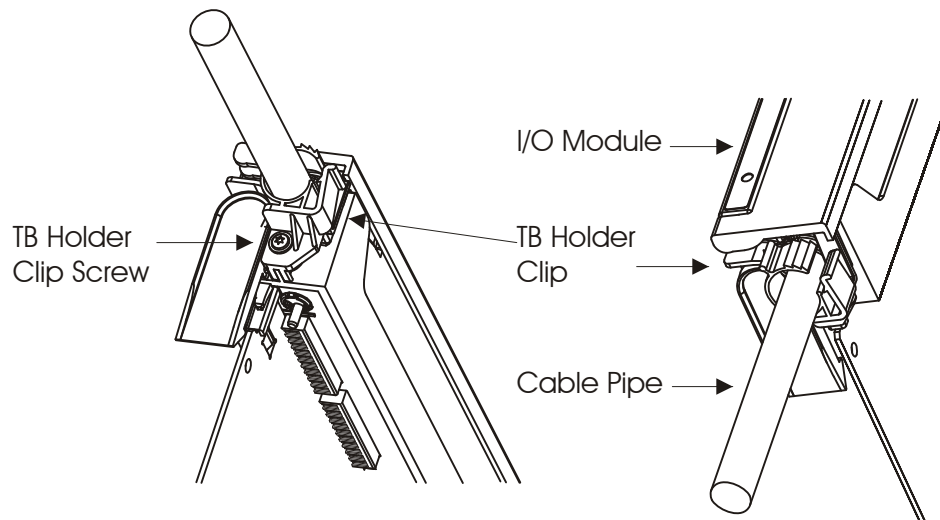

Figure 5-7 I/O Module with Terminal Block (TB) Holder Clip
- 2) Using the supplied screw, attach the TB holder clip to the bottom of the I/O module. (See Figure 5-7.)
- 9) If a TB holder clip was attached to the I/O module, slide the cable between the two edges of the clip, and press the clip closed to secure the TB holder to the module. See Figure 5-7.